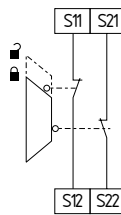

Fig. 10
**Dual-channel guard door monitoring circuit with interlocking device to ISO 14119 (Fig. 10)**